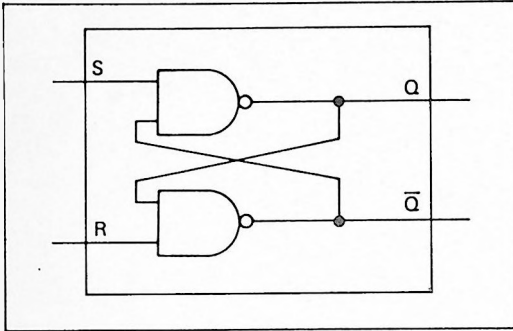

Figure C-9. "R-S" Flip/Flop Logic Symbol.
*T = Clock (CL) = Clock Pulse (CP).
i. **"R-S" Flip/Flop (latch).** As shown in Figure C-9, a LOW (GRD) applied on the "S" input lead causes the Q output to go HIGH (+5 Vdc). A LOW (GRD) applied on the "R"